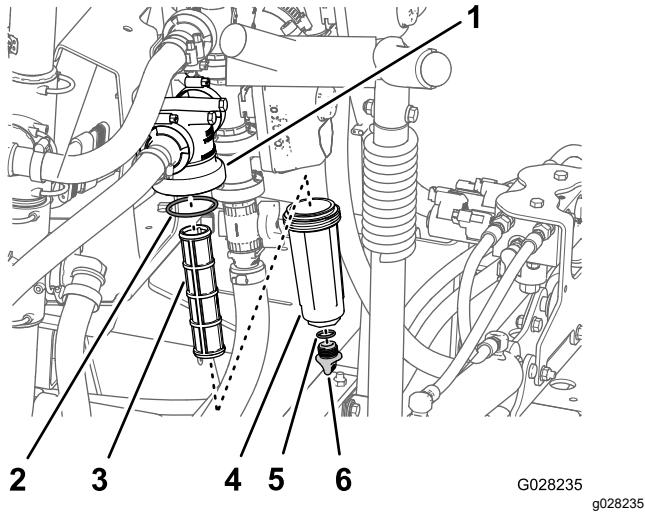

Figure 51
2. Align a drain pan under the pressure filter (Figure 51).
3. Rotate the drain cap counterclockwise and remove it from the bowl of the pressure filter (Figure 51).
4. Rotate the bowl counterclockwise and remove the filter head (Figure 51).
5. Remove the pressure filter element (Figure 51).
7. Check the gasket for the drain plug (located inside the bowl) and the gasket for bowl (located inside the filter head) for damage and wear (Figure 51).
8. Install the pressure filter element into the filter head (Figure 51).
9. Install the bowl onto the filter head, and tighten by hand (Figure 51).
10. Assemble the drain cap onto the fitting at the bottom of the bowl, and tighten the cap by hand (Figure 51).